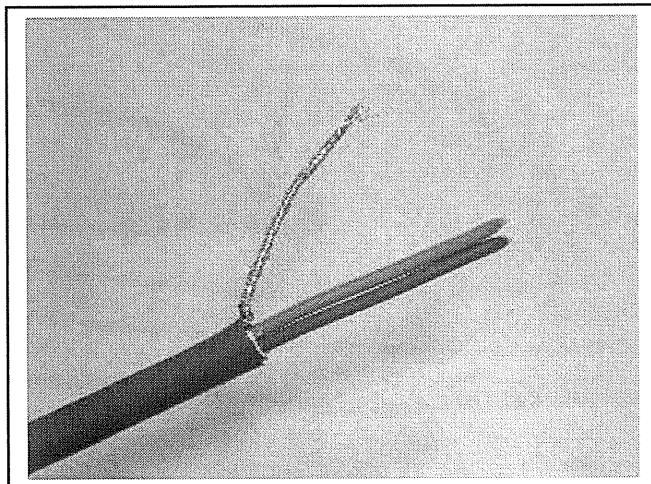

Figure 4-3. Preparing the Profibus Cable
1. Strip about 5 cm of the Profibus cable in the same way as shown in Figure 4-3, but cut off the grey cable shield. Remember to do this for both bus cables (except for the last device).